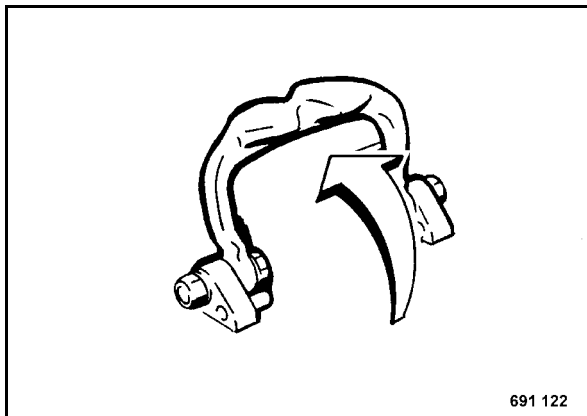

Fig. 43
- Fold the lifting hook (Fig. 43) up.